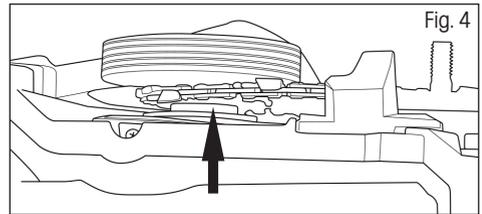

Fig. 4
**⚠ ATTENTION!** Ensure that the chain is always correctly fitted in the sprocket ring (Fig. 4). If this is not the case, the chain saw may be damaged.